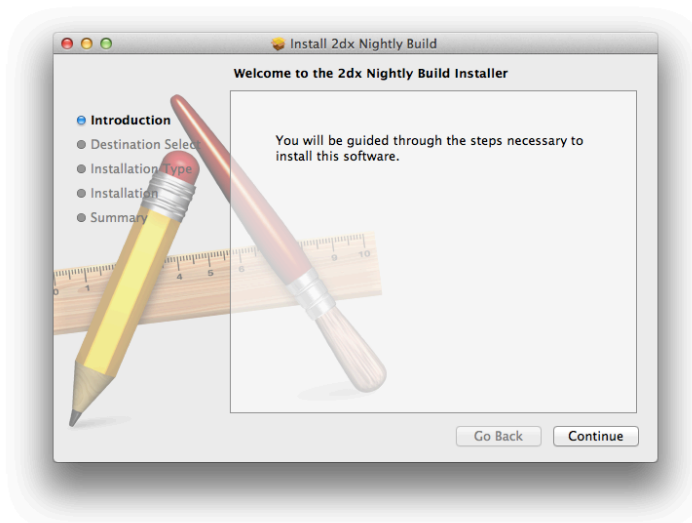

Figure 2: 2dx installer on Mac
2. After downloading double-click on the downloaded package. This will launch the installation dialog shown in Figure 2.